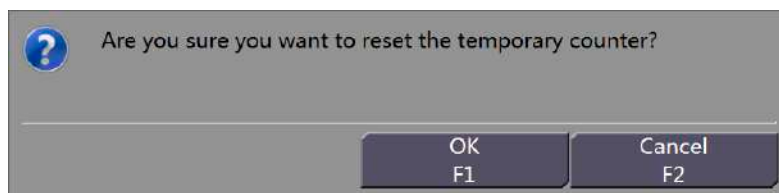

Figure 18-5 Prompt Box for Reset Counter
Step 4 By Reset, you can reset the counter. Once you click “Reset”, a dialog box will prompt as shown in Figure 18-5, click “OK” to complete the setting of reset.